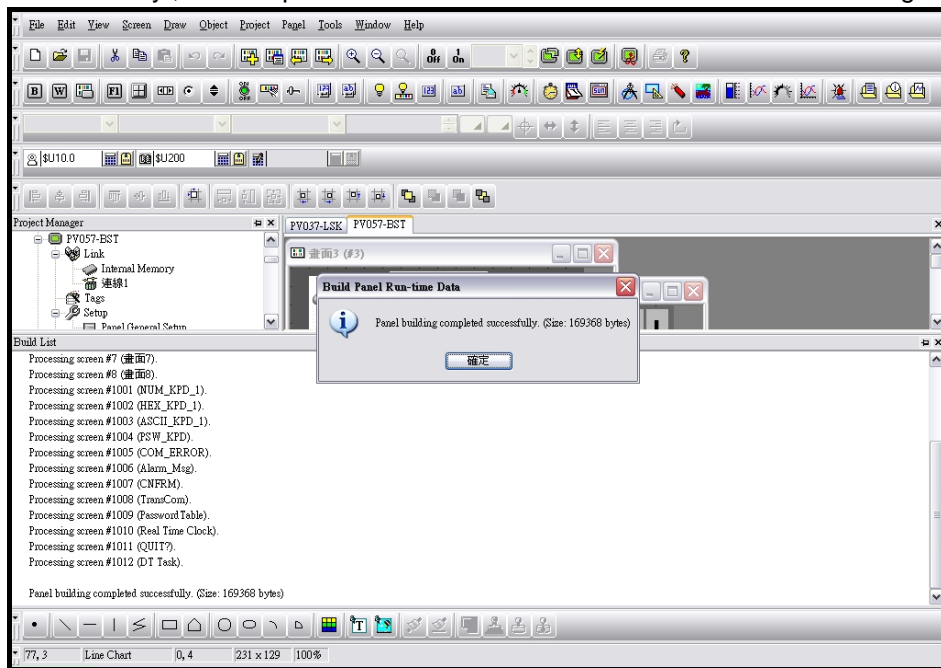

Figure 2-99 New project\_step 8\_ “Build touch run-time data” (compile successful)
**Step 8 :** Modify all errors and execute “Build touch run-time data” again to make sure all errors have been corrected. Only when there is no error occurred and the file is compiled successfully , the compiled file can be use to download. See as shown in figure 2-99.